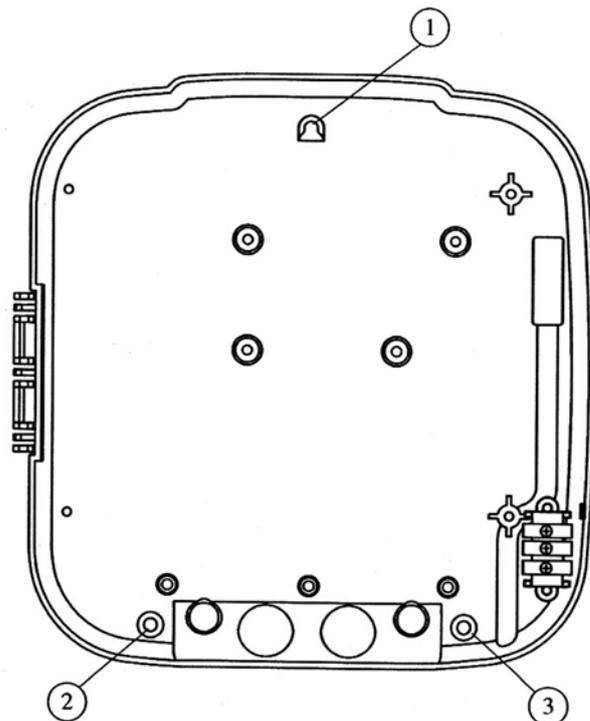

Figure 5. Fixing the casing.
- The casing is fastened with three screws to the wall. Figure 5.